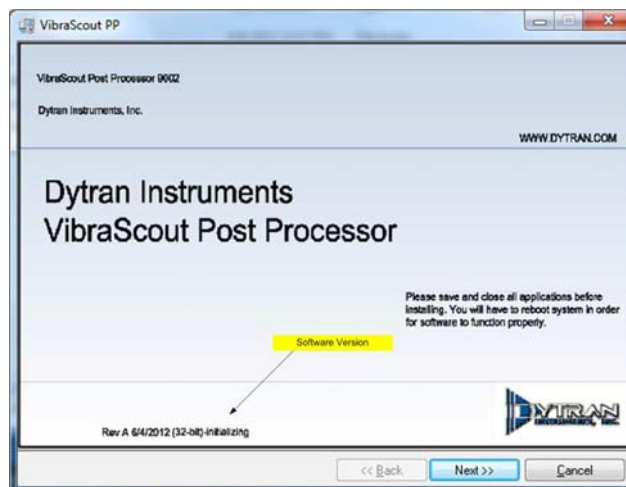

Figure 18: Welcome Screen and Software Version
Please contact Dytran Instruments, Inc. at (818) 700-7818 for latest software revision. Check software revision while installing on welcome screen as in **Figure 18**.